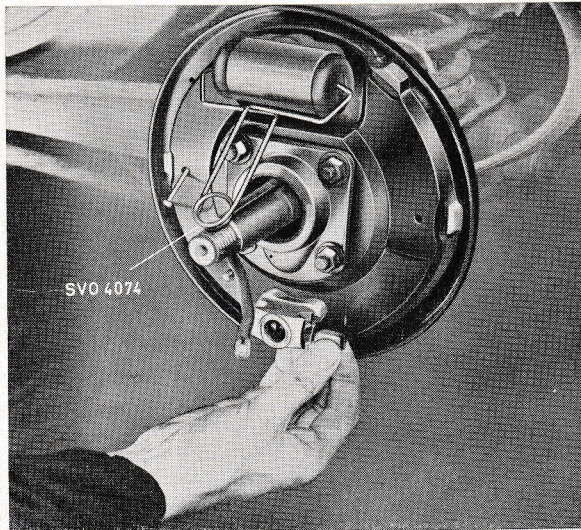

Fig. 44. Removing the adjusting plunger.
5. Screw in the adjusting screw slightly. Remove the adjusting plungers, see Fig. 44.